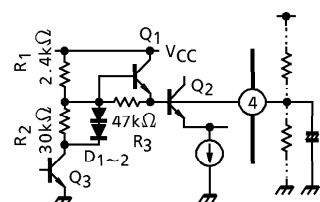

Fig.1 Internal circuit of pin④
Internal circuit of pin④ is shown in Fig.1. Ripple filter output voltage is decided by internal resistor  $R_1$ ,  $R_2$  and  $Q_3$ , and limited by  $D_1\sim 2$  and  $Q_3$  to  $V_{RF} = 1.5V$  (Typ.)